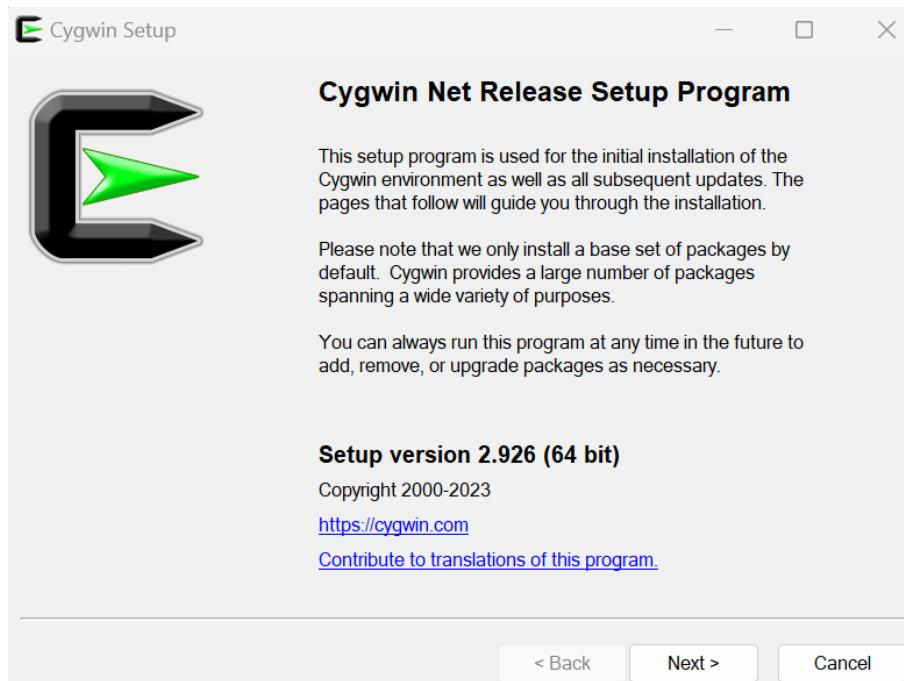

Figure 85. Cygwin installation window
2. Execute the setup file in your machine by double-clicking on it (Figure 85).